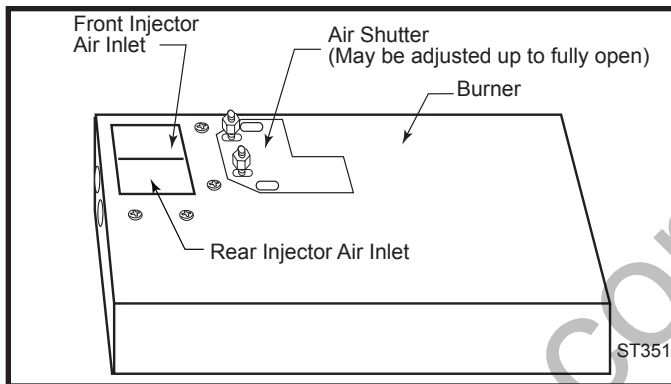

Fig. 39 Air shutter adjusted.
8. The air shutter is located on the bottom of the burner to the left. (Fig. 37) Unfasten the two nuts holding the shutter in place. The shutter may be adjusted between the factory adjusted 1/2" to fully open. Reassemble the shutter to allow the rear injector air inlet to close from the minimum 1/2" opening to fully open. (Fig. 39) You may have to try more than once to find the correct air shutter opening for best results depending on your altitude.